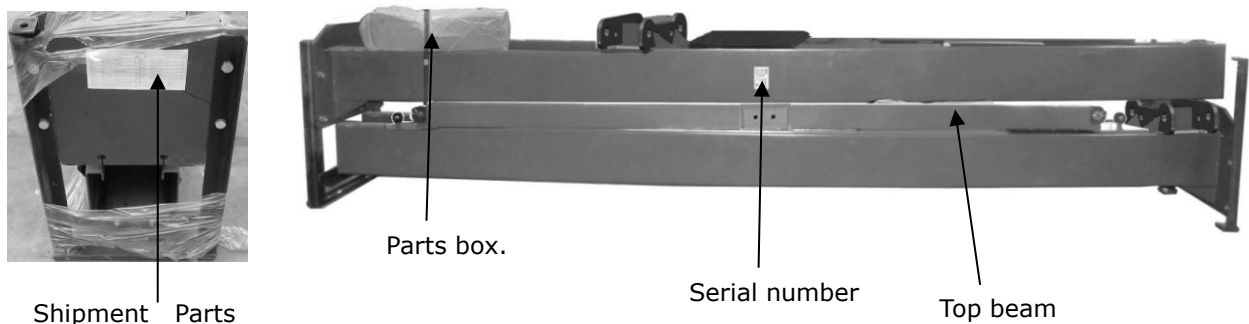

Fig. 8
2. Move the lift aside with a fork lift or hoist, and open the outer packing carefully , take off the parts from upper and inside the column, take out the parts box, check the parts according to the shipment parts list (**See Fig. 8**).